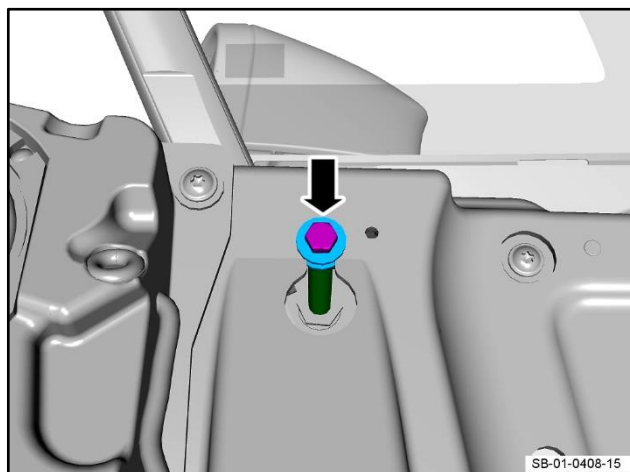

Figure 14
15. Remove the bolt, spacer and washers (refer to Figure 14).